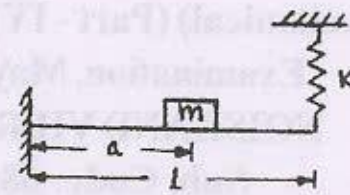

Figure No.2
- b) Find the natural frequency of the system shown in Figure No.2. What will be the natural frequency of the system if mass "m" is placed at the end of lever. [8]